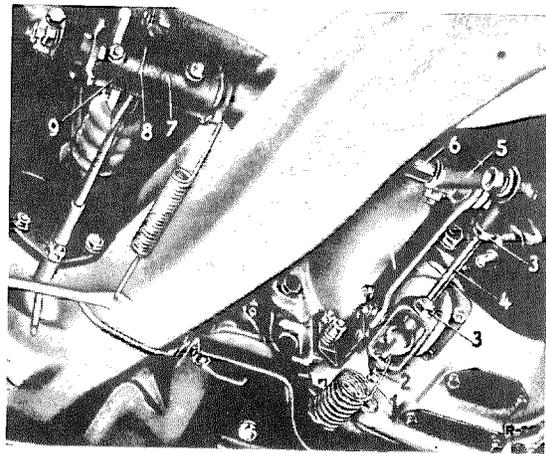

Fig. 26-1/8
In order to facilitate vertical centering of the clutch pedal shaft, the two bores in the swivel support (9) have been enlarged in diameter from 6.4 to 7.0 mm. If a new bracket (3) is installed subsequently, the two bores in the swivel support must be bored to a diameter of 7 mm (Fig. 26-1/7).
- In the case of Models 180 a, 180 b, 190 D, and 190 Db adjust the length of the damping spring (8) to 15.5 mm by screwing in
or backing out the hexagon nut (6) (spring pressure approx. 40 kg) and by locking it in position by means of the second hexagon nut (6) (Fig. 26-1/6).